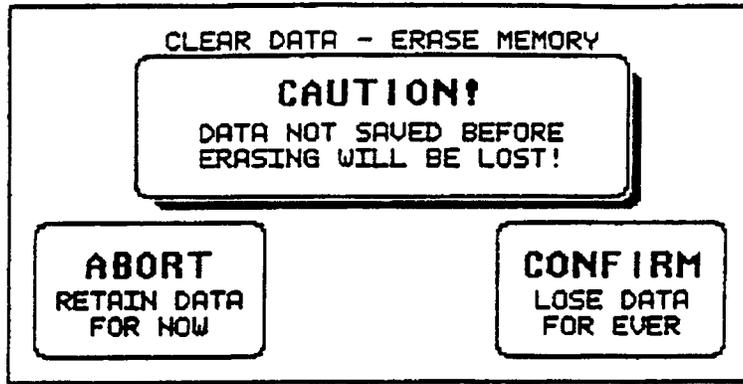

Figure 3-22. Confirmation Screen for Clearing Memory.
42. **If all data have been downloaded, the Analyzer's memory may be cleared.** This is done from the Review screen by pressing the CLEAR MEMORY box. Once pressed a confirmation screen will appear as shown in Figure 3-22. Press the CONFIRM box to delete all data (specific parts of the data cannot be deleted). Now, the Analyzer may be used to recover new data.